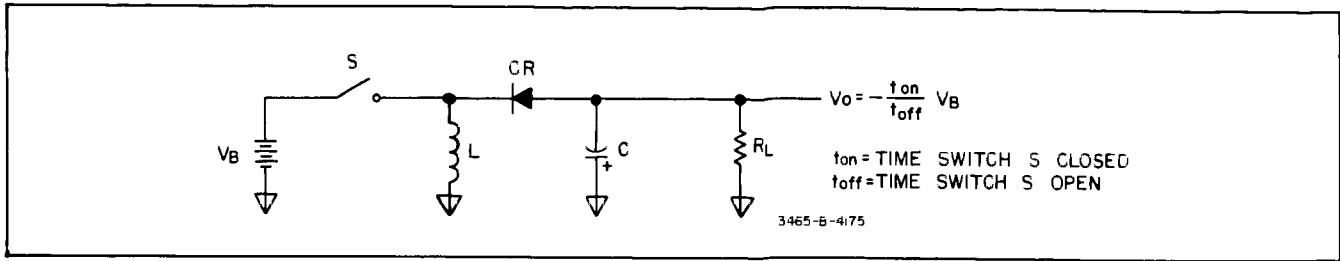

Figure 4-9. Basic Diagram, DC-to-DC Converter.
4-73 This paragraph is a description of a simple dc-to-dc converter. Figure 4-9 is a diagram of this converter. When switch S is closed (t_{on}), battery voltage VB is applied to the inductor L. Since the battery voltage is constant, the inductor current increases linearly with time. The inductor current establishes a magnetic field which stores energy transferred from the battery. During t_{on} , C supplies current to the load, R_L . When switch S is opened (t_{off}), the voltage across the inductor inverts and forward biases diode CR. For a constant V_o , the inductor current decreases linearly with time and transfers energy to the capacitor and load resistor, C and R_L . The energy transferred from the battery to the load is controlled by switch S. By controlling switch S the output voltage can be made greater than, equal to or less than the battery voltage VB and can be regulated for changes in the battery voltage (VB) and in the load (R_L). For a steady state condition, the duty-cycle of switch S is